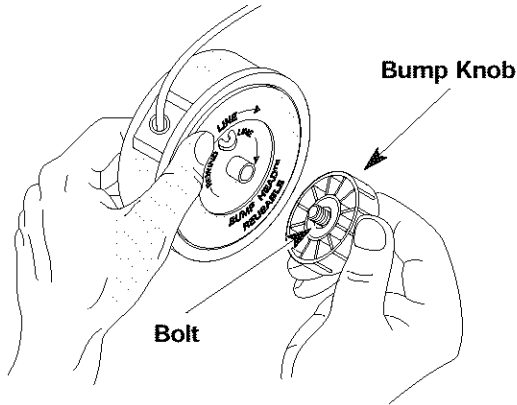

Fig. 16
1. Hold the outer spool with one hand and unscrew the bump knob **counterclockwise** (Fig. 16). Inspect the bolt inside the bump knob to make sure it moves freely. Replace the bump knob if damaged.